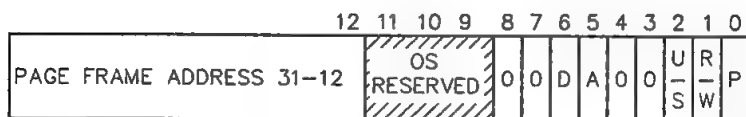

Figure 12-11. Page Directory Entry Format
The 80386 requires that each task within the system be associated with a TSS. The task state segment register (TR) is a special register in the 80386 that identifies the current TSS. The TR contains a selector which refers to a descriptor that defines the current TSS. Whenever the TR loads a new selector, a hidden associated base and limit register, illustrated in Figure 12-11, is also loaded. The IRET instruction, if properly set, will return control to the interrupted task.
Page Directory — Each page directory entry is four bytes long. The directory itself contains 4096 bytes, providing enough room for 1024 entries. Each entry contains the address of the next level of tables, the page tables, and related information. Figure 12-11 illustrates the format of a typical page directory entry. Table 12-10 describes the table entries themselves.